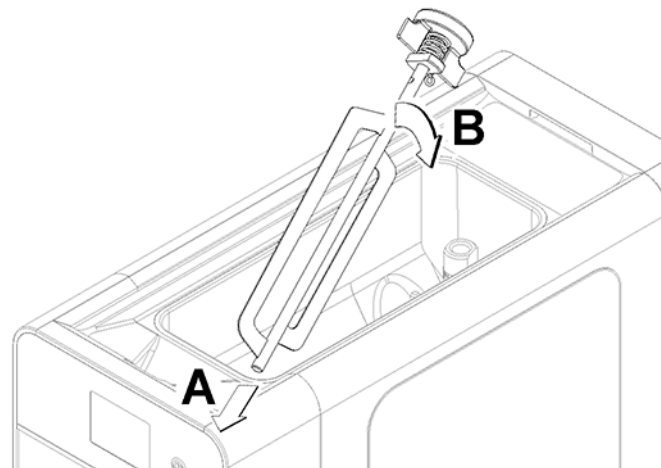

figure 30
- 8 Fit the mixer together taking care to insert the ends in the grooves in the upper basin.(see figure 30)